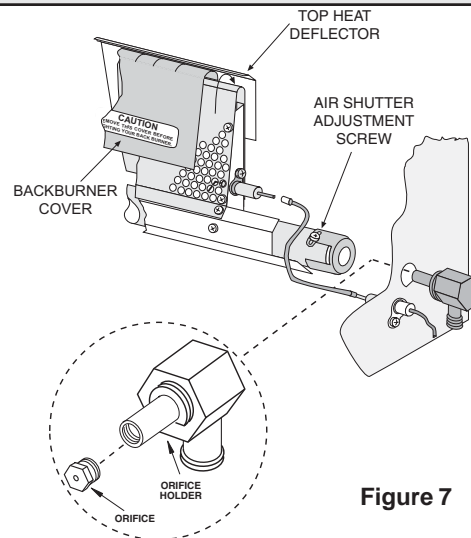

Figure 7
b. First loosen the air shutter screw (see Figure 7). It may be necessary to use pliers to turn the air shutter. Light the backburner. With the control knob on "HIGH" adjust the backburner to have a blue flame that is not lifting off the burner (It may also have slightly yellow tips).
a. The backburner cover is installed by placing the curved part of the cover over the top of the perforated portion of the backburner (See Figure 7).